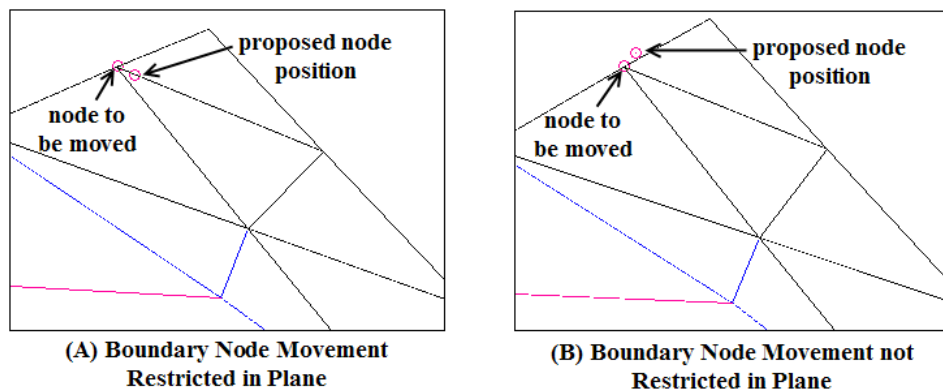

Figure 13.7.1: Movement of Boundary Nodes
3. Enable Restrict Boundary Nodes Along Surface if required. When this option is enabled, the movement of the boundary node will be limited to the plane containing the boundary faces sharing the boundary node (see Figure 13.7.1).